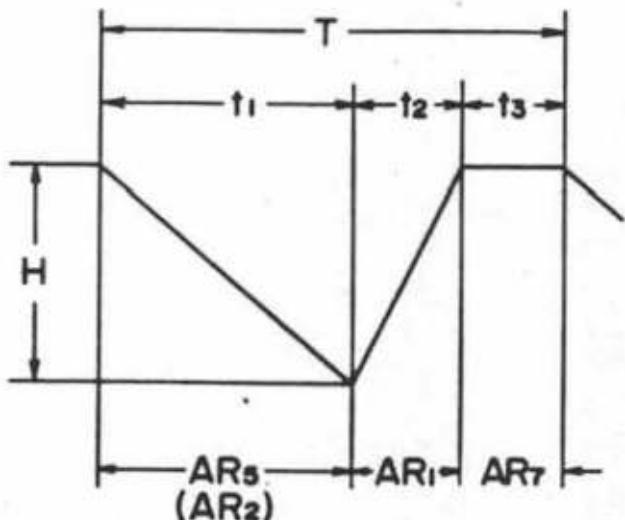
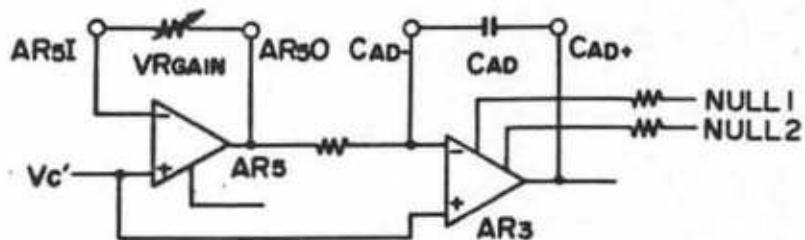

Fig. 3-10
Fig. 3-14
- o Fig. 3-10. is a schematic representation of the dual ramp integration analog digital convertor.
- o Fig. 3-14 shows the schematic for the circuit used in the A/D conversion whose waveforms are shown in Fig. 3-10 and 3-13. The following is true: